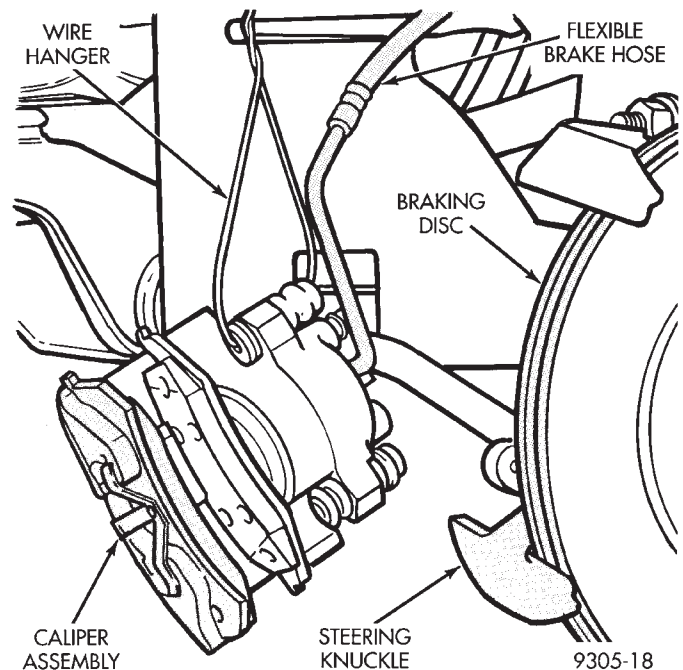

Fig. 3 Storing Caliper
(5) Support caliper firmly to prevent weight of caliper from damaging the flexible brake hose (Fig. 3).